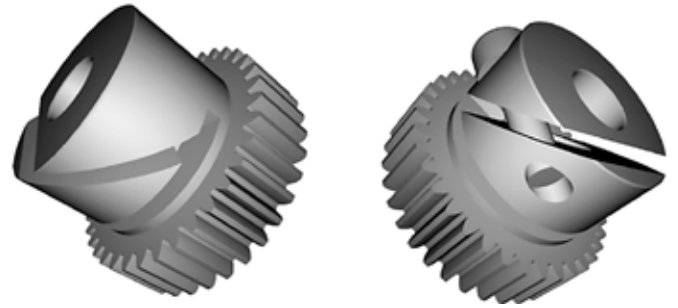

Figure 4
- A third style integrates a locking mechanism into the hub of a gear. This style uses two intersecting slots in the gear hub to generate a wedge section. The wedge is closed by a cap screw, which forces the free section of the hub to clamp onto the shaft. This mechanism is excellent for repositioning but is limited by the holding strength of the wedge. (Figure 4)